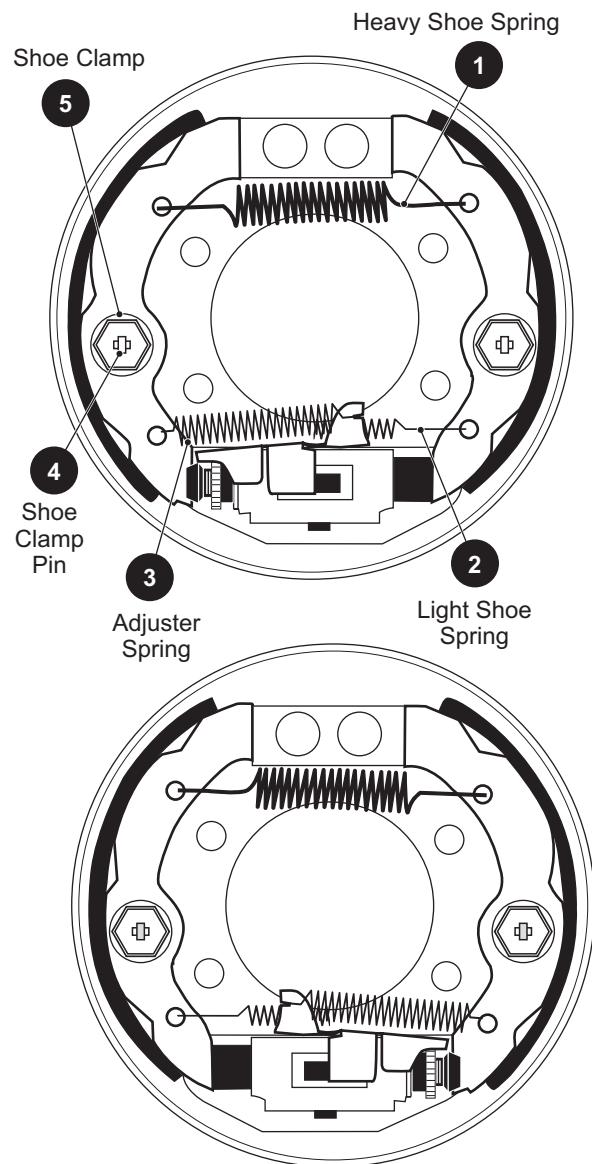

Figure 22 Brake Shoes and Springs
Remove the three brake shoe springs and discard (1, 2, 3). Note the location of the heavy spring and the adjuster spring (Figure 22). Hold the shoe clamp pin (4) and compress and rotate the shoe clamp (5) 90° to release it from the shoe clamp pin. Remove the brake shoes, adjuster and remaining components.
Always replace both brake shoes on both wheels as a set. Install the shoes as indicated and install the shoe clamp (5) over the shoe clamp pin (4) and rotate 90° to lock them in place (Figure 22).
Install new brake shoe and adjuster springs. The hooked end of the adjuster spring is inserted through the front of the front shoe as shown (Figure 22). The opposite end of the adjuster spring is hooked to the adjuster with the hook end facing out. The brake shoe springs must be installed with the light spring closest to the adjuster mechanism with the hook installed down through the rear brake shoe and up through the front brake shoe. The heavy top spring is installed with both spring hooks installed down through the brake shoes. Check to see that the brake is functioning properly.